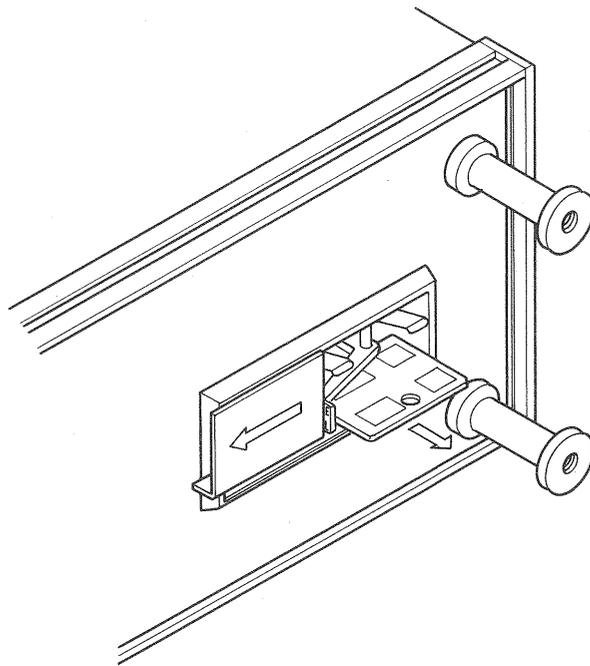

Fig. 7 When the print sheet for indicating voltage change has been pulled out
- 2) When the fuse is removed, a print sheet as the one shown in Fig. 7 is seen inserted under the clip. Take out this print sheet. The current setting is 100V. Accordingly, the print sheet has been inserted so "100" is visible. On the backside, "120V, 240V" is indicated.